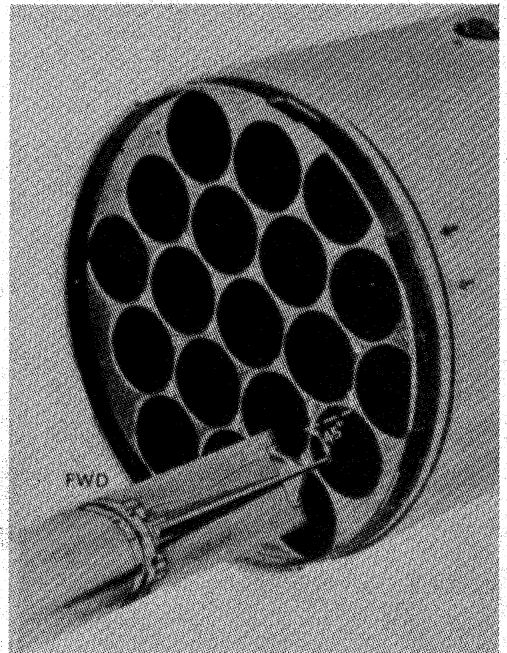

Figure 2-7. Loading Rockets
- 2-16 Load rockets from forward end of launcher with rocket fins aligned so that arrow marking on launcher forward bulkhead is between two fins. (Figure 2-7).